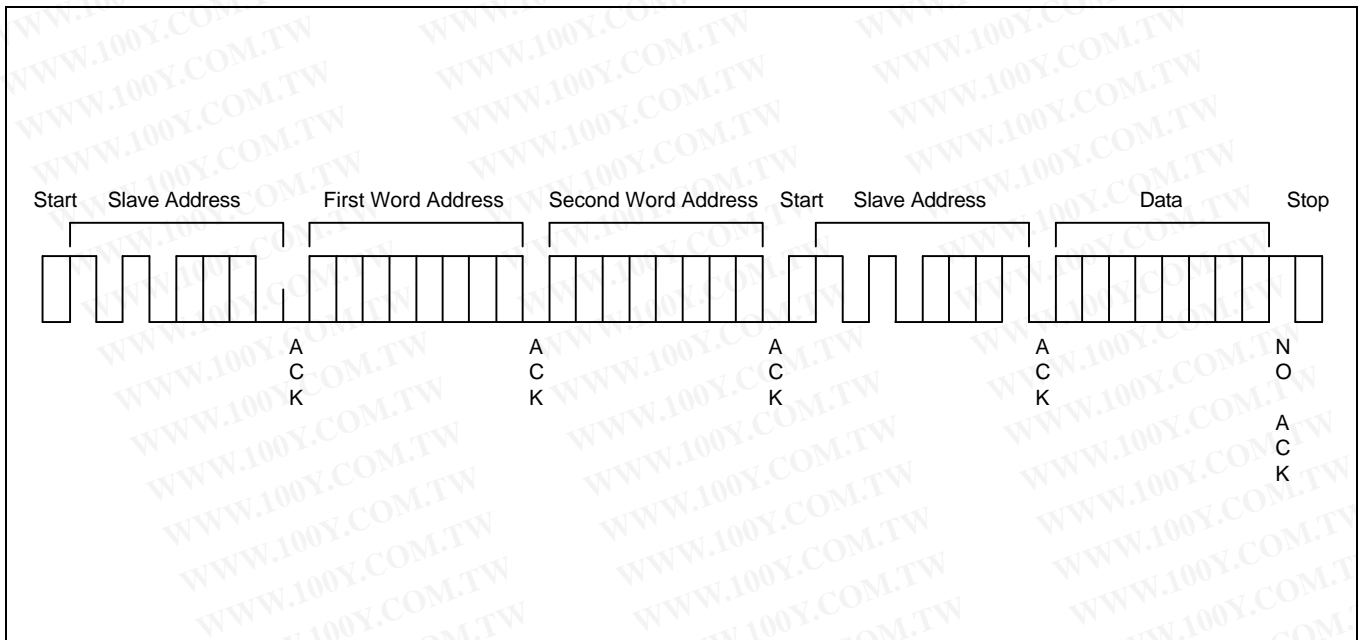

Figure 4-14. Random Address Byte Read Operation
5. The S524AB0X91/B0XB1 stops transmitting data and reverts to stand-by mode (see Figure 4-14).